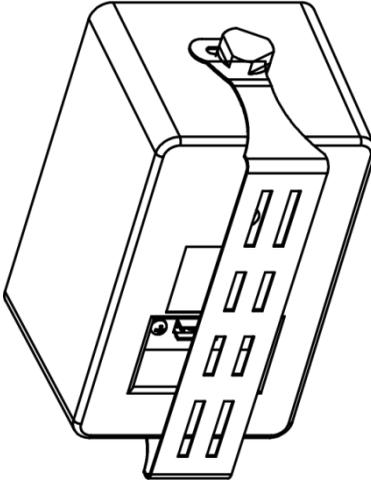

Figure 3: Galil 4-O with Brackets Connected
4. Align the bracket screw holes (upper and lower) to those on the speaker and screw a knob to each of the holes to secure the speaker to the bracket (see Figure 3).